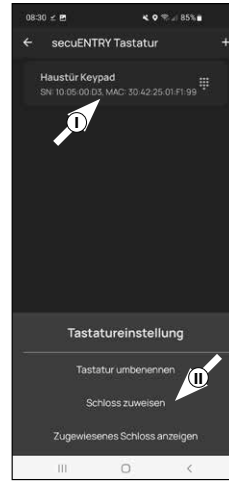

Fig. 10
11 Tap the entry for the corresponding keypad in the list of registered keypads (I) (Fig. 10) and then tap „Assign lock“ in the menu window that appears (II) (Fig. 3).